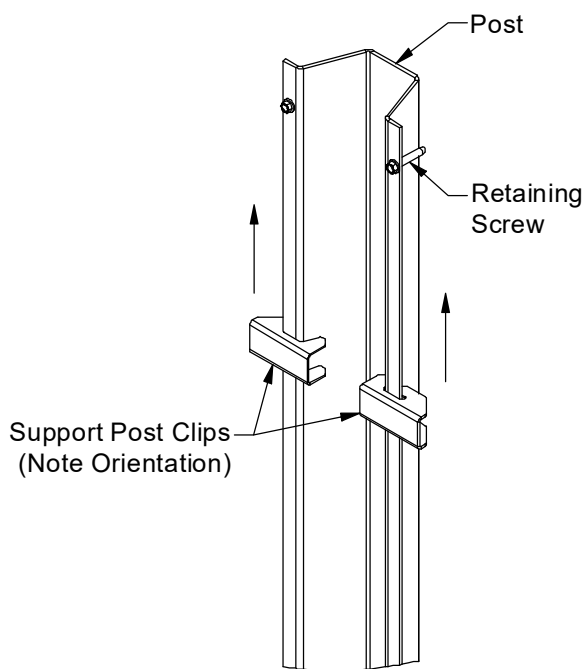

Fig 18 - Support post clip installation, Detail A
3. Attach the wall sheets to the clips with 1/4 x 1-1/2" self-tap screws. See Figure 18, 19, 20.